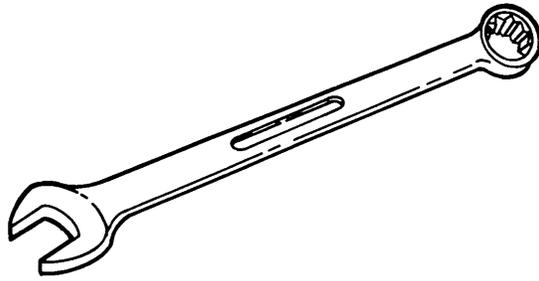

Figure 4-24. Combination Wrench
(3) **Combination wrenches.** The combination wrench shown in figure 4-24 combines the best features of the open-end and box wrench into a single wrench. The size opening on the wrench is the same on both ends, but one end has a box head and the other end has an open-end head. The length of the wrench varies with the size of the head. The box-end opening is offset from the shank by 15 degrees.